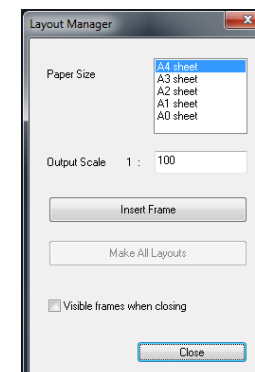
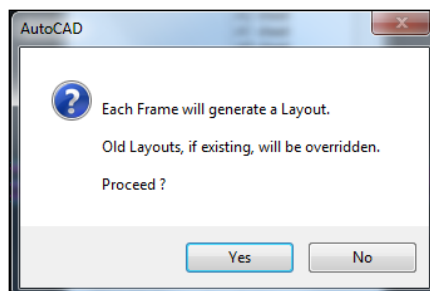

Fig. 133 - Layout Manager window
Fig. 137 – Overwrite window
13. The **Layout Manager** command () activates the window in Fig. 133 that manages the creation of the various printing Layouts allowing to:
If the User wishes to cancel a layout, they must repeat the insertion by selecting **Make All Layouts** command (Fig. 133); an alert message (Fig. 137) will show up allowing, by selecting **Yes** button, the User accept creating new printing layouts which will overwrite the ones previously created.